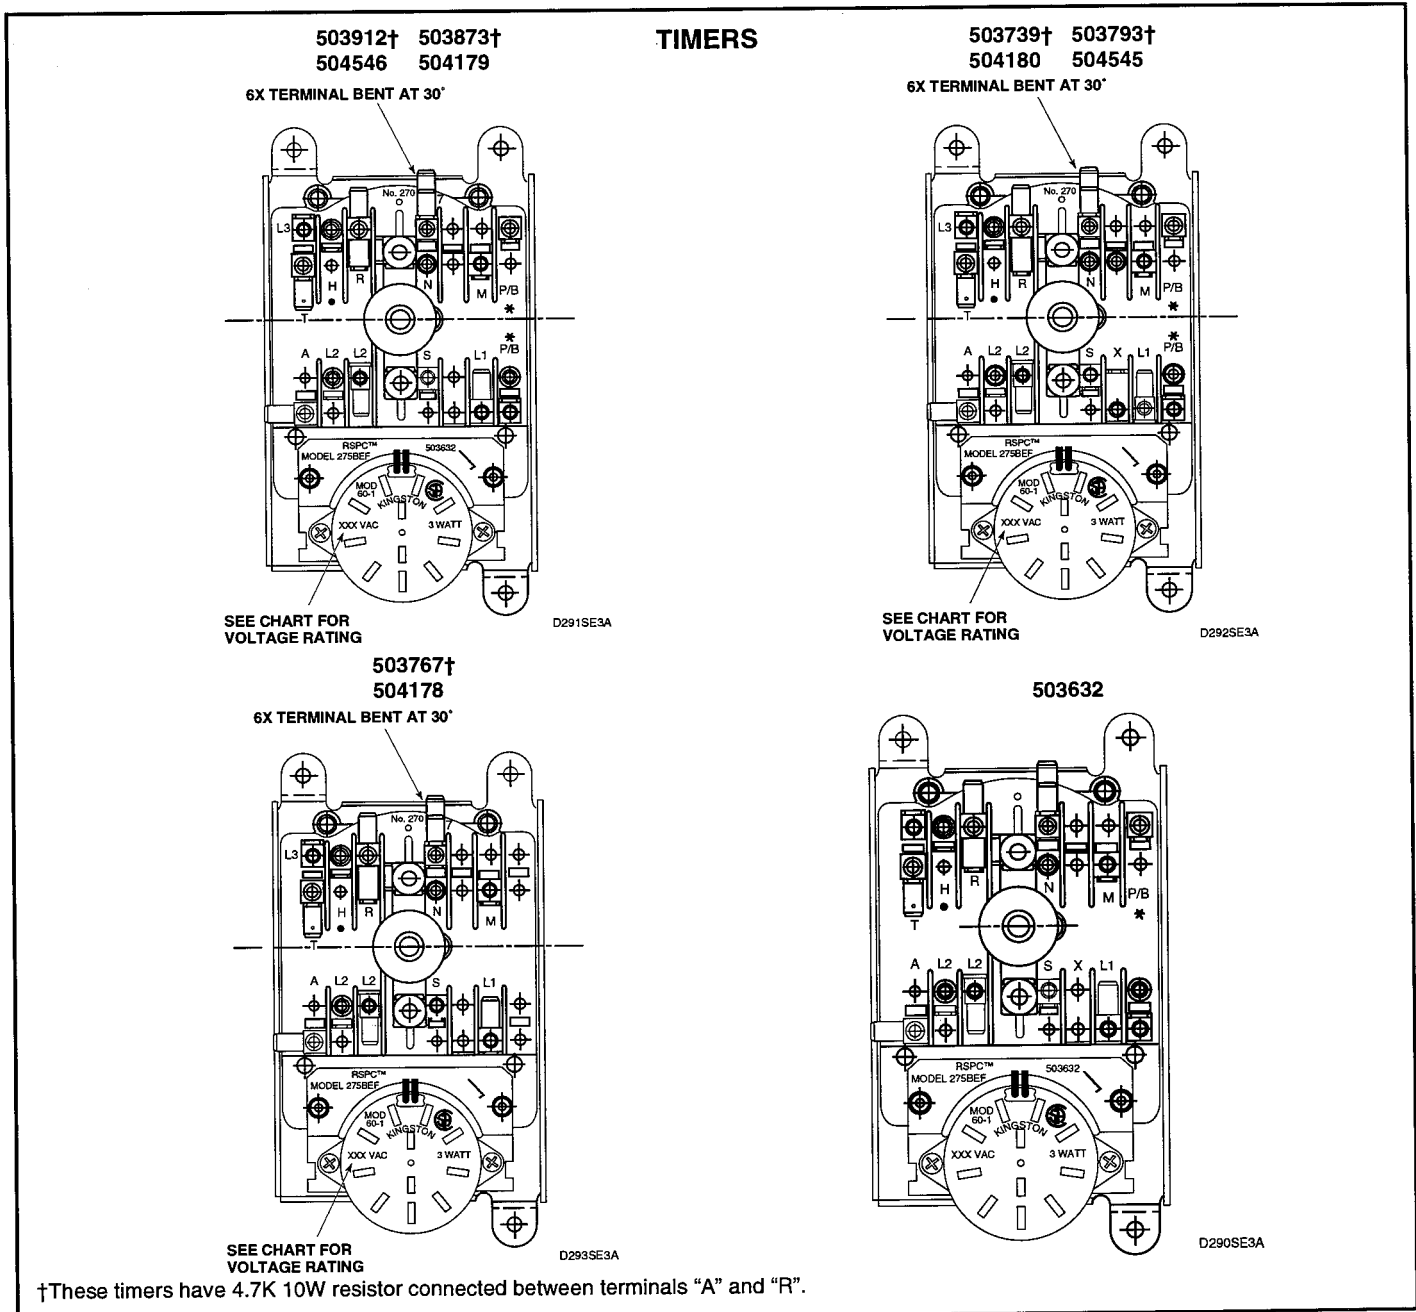

Figure 7-7
10. TIMER ADVANCE AND TIMER CONTACT POINTS (FIGURE 7-7)
- Set test meter to read Ohms and apply meter probes to terminals. See figure 7-7.
- Starting with timer knob indicator in OFF position at top of timer, slowly turn timer knob clockwise until indicator is again pointing toward OFF position at top of timer. Meter should register “zero” reading when circuit being tested is completed by timer. Refer to figure 7-7 for Timer Cycle Chart showing when circuit is made.